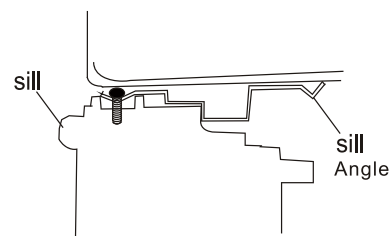

Fig.12
2. Place cabinet in window with bottom sill angle firmly seated over window sill as shown. Bring window down temporarily behind top rail to hold cabinet in place (Fig.12).
Step 2. Remark a line on the provided R1 insulation panel according to a length  $1/8$ " (3mm) less than the measured width in step 1, then cut the R1 insulation panel along the line (Fig.12).